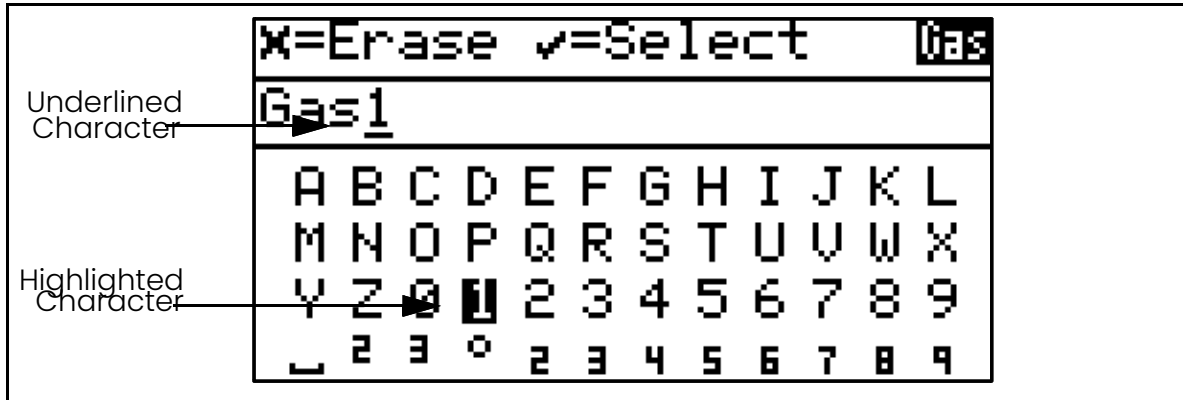

Figure 48: Alphanumeric Menu with Keyboard Highlighted
- Pressing the **Down** arrow will move the highlight to the **Keyboard** section (see *Figure 48* below):